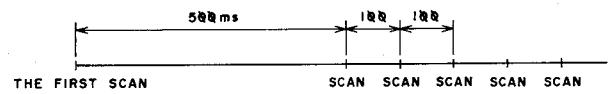

Fig. 5-7
- (d) When the key is pressed continuously, scanning time is as Fig. 5-7